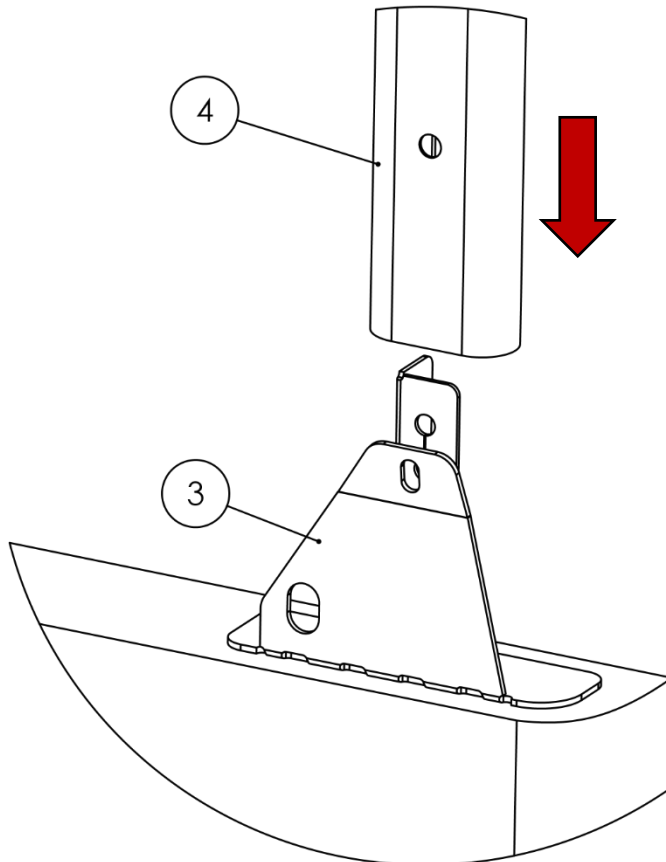

Figure 5
3. **Attach the Legs to the Bases.** Examine the Legs (Item No. 4) and locate the pre-drilled holes on the outside of each leg. As shown in Figure 5, slide the leg down and align it so that its hole matches with the holes found on the Base (Item No. 3).